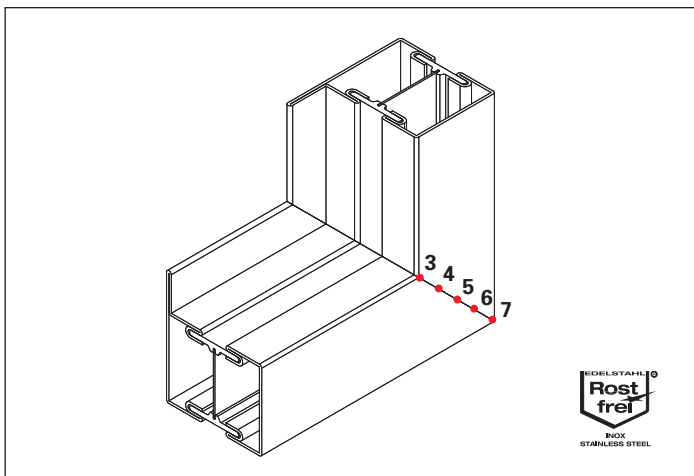

Fig. 145 Tack the smaller surface every 10 to 15 mm (3-7)
4. Tack the visible surfaces (Fig. 145 to 150)